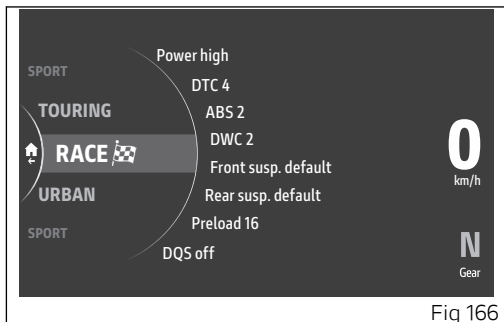

Fig 166
- Press button (B).
- System opens the specific page (Fig 166) from which it is possible to scroll the available Riding Mode and view their parameters, together with the relevant settings, by means of joystick ▲ ▼.